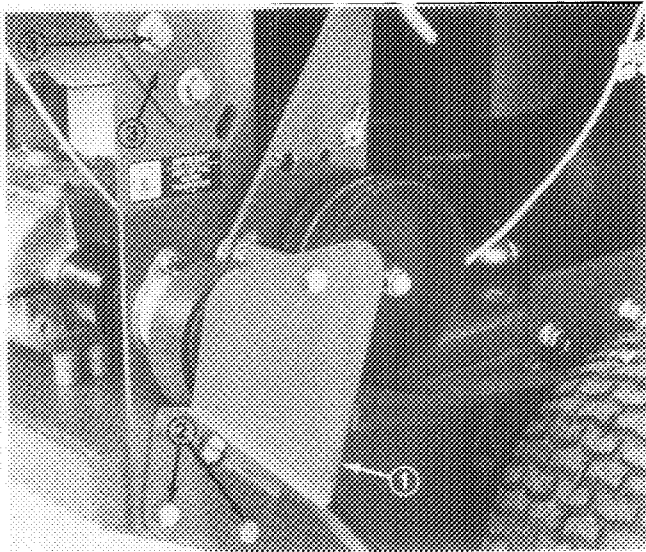

Figure 2
- Remove (2) capscrews and locknuts securing bottom of R.H. support bracket to rear frame (Fig. 2).
- Remove top flange head capscrew and flangenut securing right side of handle to frame (Fig. 2).